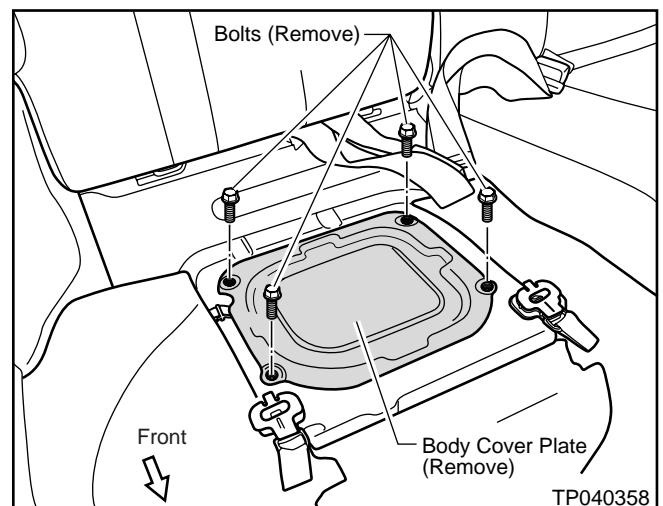

Figure 15
2. Remove four Bolts and remove the Body Cover Plate (see Figure 15).